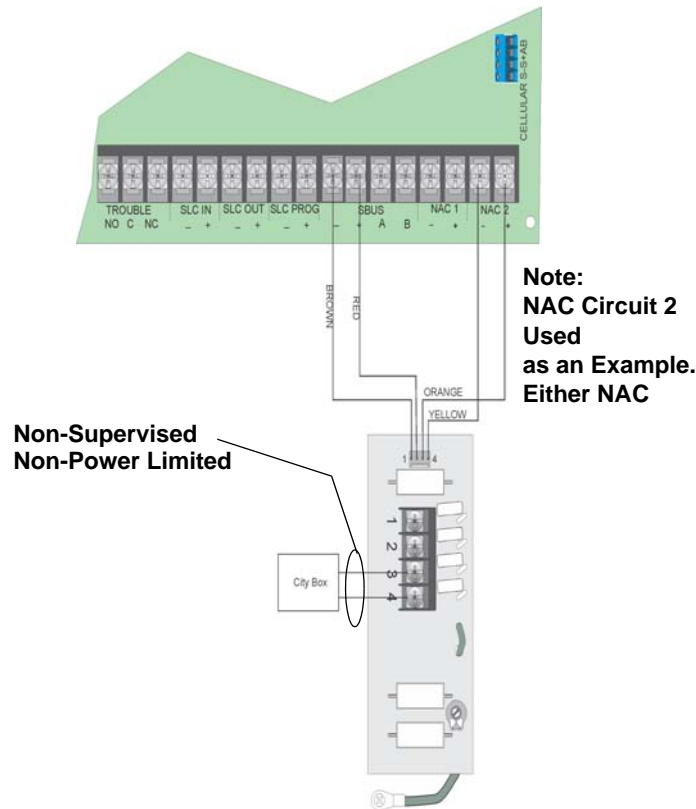

Figure 4-48 City Box Connection
2. Wire the 5220 to the control panel as shown in Figure 4-48. This drawing also shows how to connect the city box coil to terminals 3 and 4 on the 5220. Do not install an EOL resistor in the terminals of the NAC circuit used for this application.